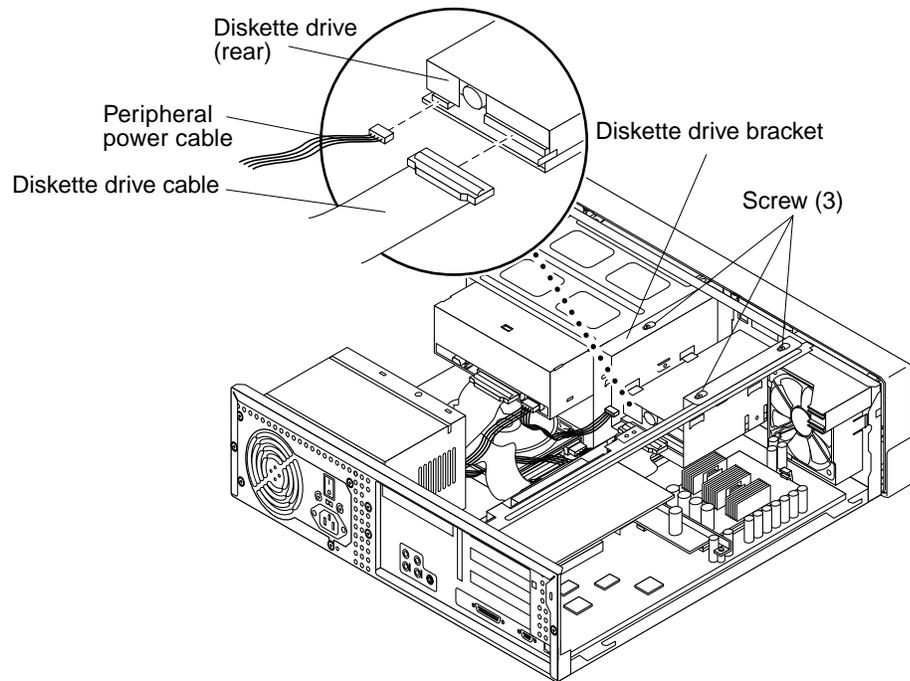
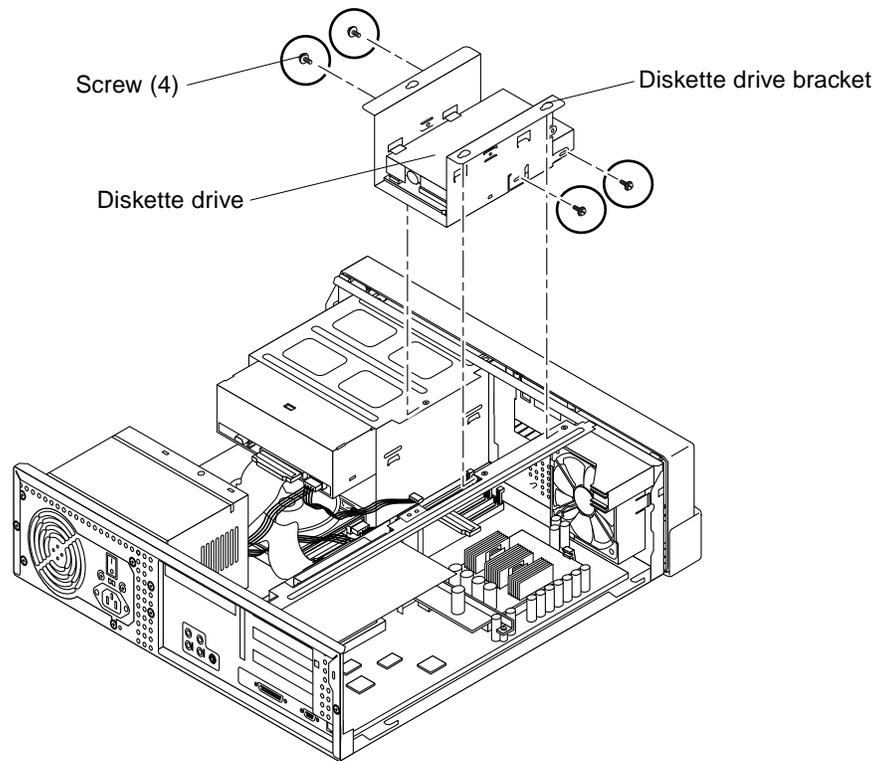

FIGURE 7-1 Removing and Replacing the Diskette Drive, Part 1
FIGURE 7-2 Removing and Replacing the Diskette Drive, Part 2
- i. **Using a No. 2 Phillips screwdriver, loosen (but do not remove) the three screws securing the diskette drive bracket to the chassis (see FIGURE 7-1).**
- i. Using a No. 2 Phillips screwdriver, loosen (but do not remove) the three screws securing the diskette drive bracket to the chassis (see FIGURE 7-1).
i. Place the diskette drive bracket back in position, aligning the three holes in the bracket with the three securing screws on the chassis (see FIGURE 7-1).
2. **Remove the diskette drive as follows (FIGURE 7-1 and FIGURE 7-2):**
1. **Replace the diskette drive as follows (FIGURE 7-1 and FIGURE 7-2):**